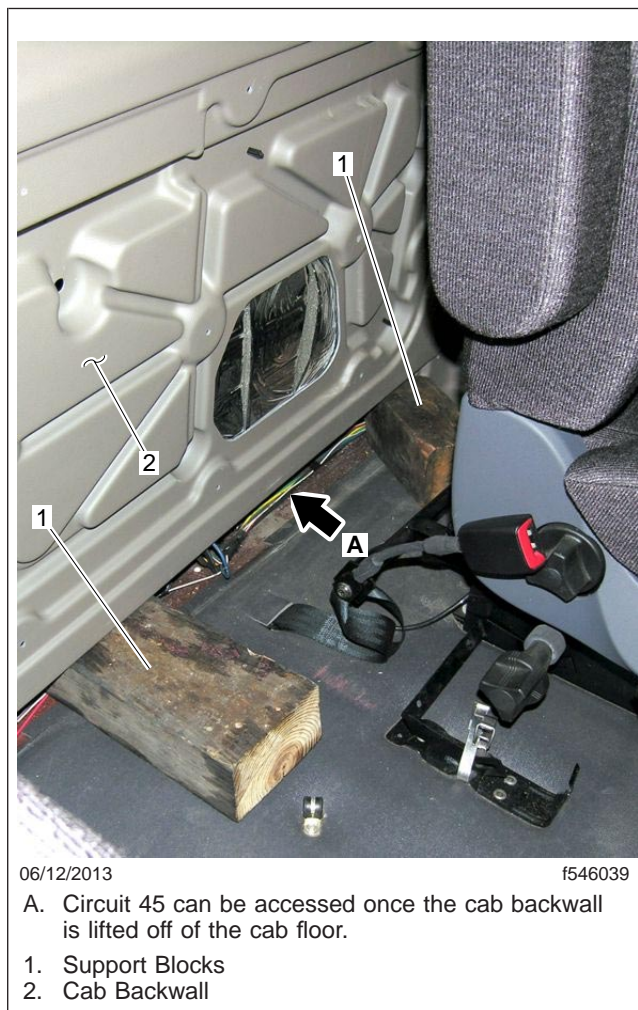

Fig. 3, Support the Cab Backwall with Blocks (daycabs)
- On daycabs, move the driver and passenger seats as far forward and possible. Remove the backwall upholstery panel and the backwall panel. Support the backwall panel with blocks to gain access to the Qualcomm wiring. See Fig. 3.